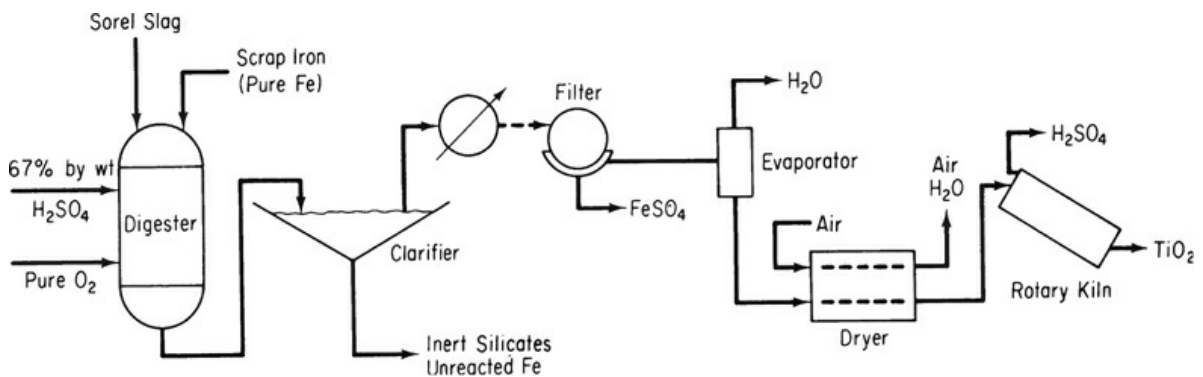

Figure P5.2.13
- ***5.2.13 The flowsheet shown in Figure P5.2.13 represents the process for the production of titanium dioxide (TiO_2) used by Canadian Titanium Pigments at Varennes, Quebec. Sorel slag of the following analysis